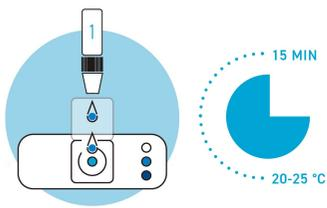

Figure1. Lactase Reaction
1. Open the label covering the well on the plate. Place the biopsy specimen into the well. See figure 1.